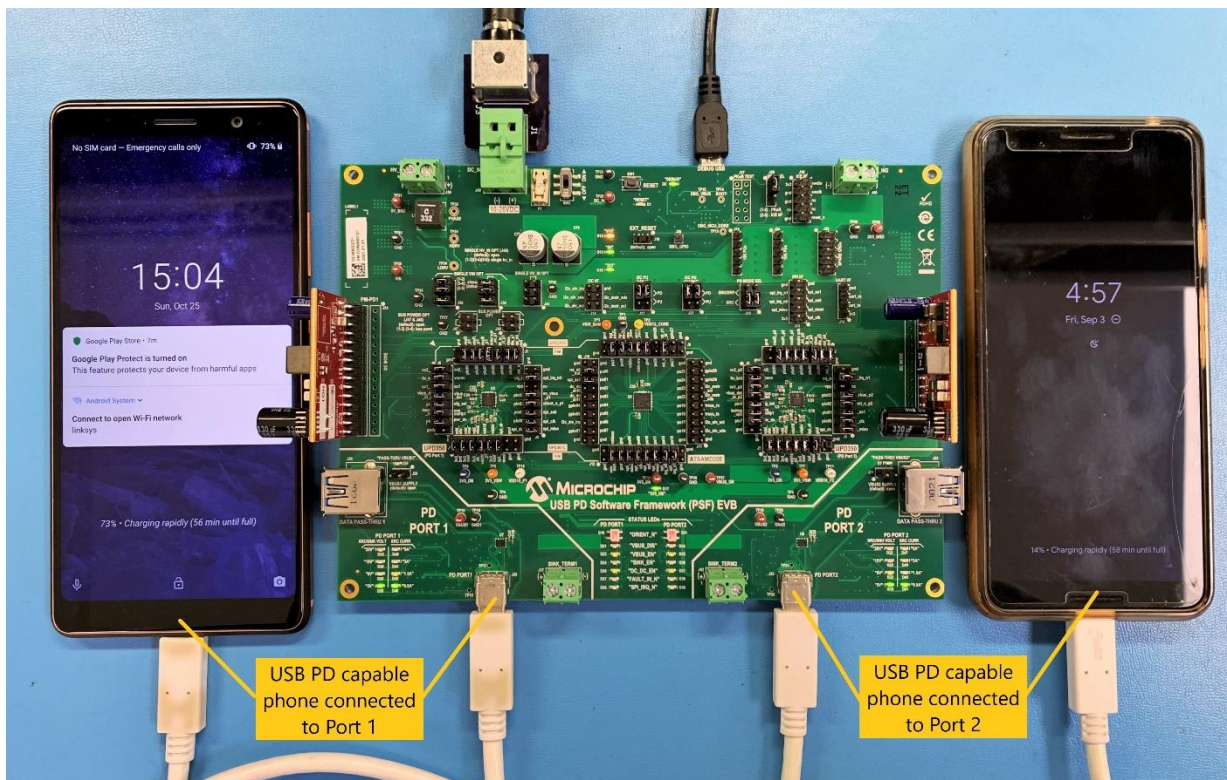

Fig 6.2 Two USB PD Capable Phones connected to both Ports
6. The Fig 6.2 demonstrates a scenario where two USB PD Capable phone has been connected to Port 1 Port 2.